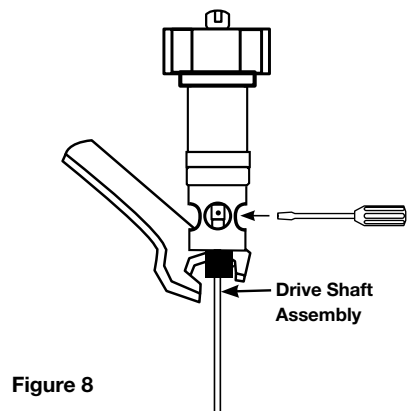

Figure 8
8. Insert a small screwdriver (or similar object) through the small hole on the shaft located inside the mechanical seal inspection port (see Figure 8).
9. While holding the small shaft still, loosen (counterclockwise) the pump drive shaft with large wrench. (see Figure 8).